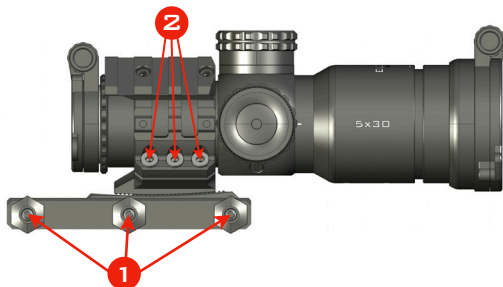

FIG.2
- 2) Loosen the Base Nuts (Fig.2, Pos.1) and fit the mount to the rail, ensuring that the cross bolts fit correctly in the rail slots. Shoulder the rifle to check whether eye relief is correct, and adjust mount position accordingly. Torque the nuts down to **50 in.lbs (5.7Nm)** using a 13mm or 1/2" Socket.
- 3) If the scope needs to be levelled, loosen the ring screws and adjust the scope position until cant error is removed. Once you are happy with the position of your riflescope, begin to torque down your rings in a criss-cross pattern, moving between screws (Fig.2, Pos.2) and turning small amounts at a time. **Use a torque of 1.2-1.5 Nm (10.6-13.3 in-lbs) for the ring screws.**